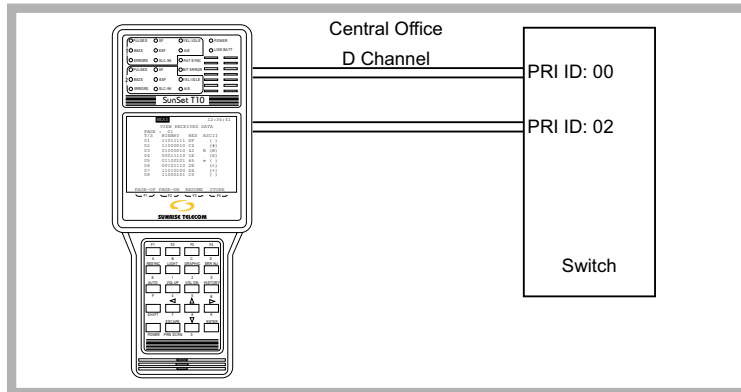

Figure 200 47B + D
2. Connect the SunSet T10 to the circuit as shown in Figure 200. Press the HISTORY key on the keypad to clear the flashing LEDs.